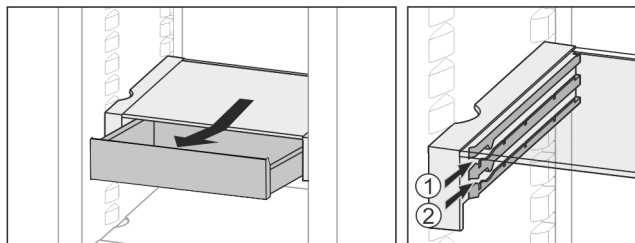

Fig. 28
- Slide in at any height Fig. 28 (1) or Fig. 28 (2).